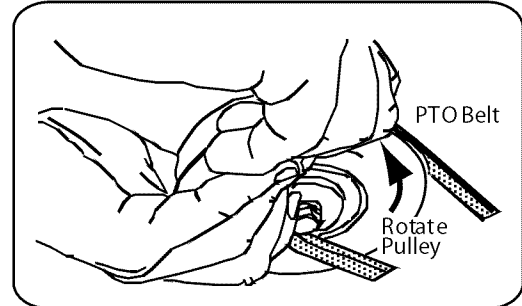

Figure 7-7
- While holding the belt and pulley together, rotate the pulley to the left. Continue holding and rotating the pulley and belt until the belt is fully rolled into the PTO pulley. See Figure 7-7.